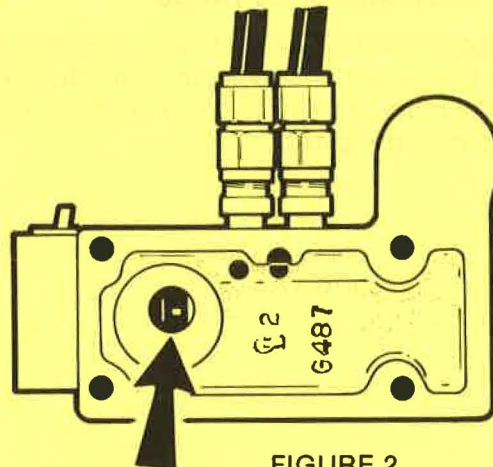

FIGURE 2
3. Slide piston to expose the largest diameter of the piston through the pin port as shown in Figure 2.